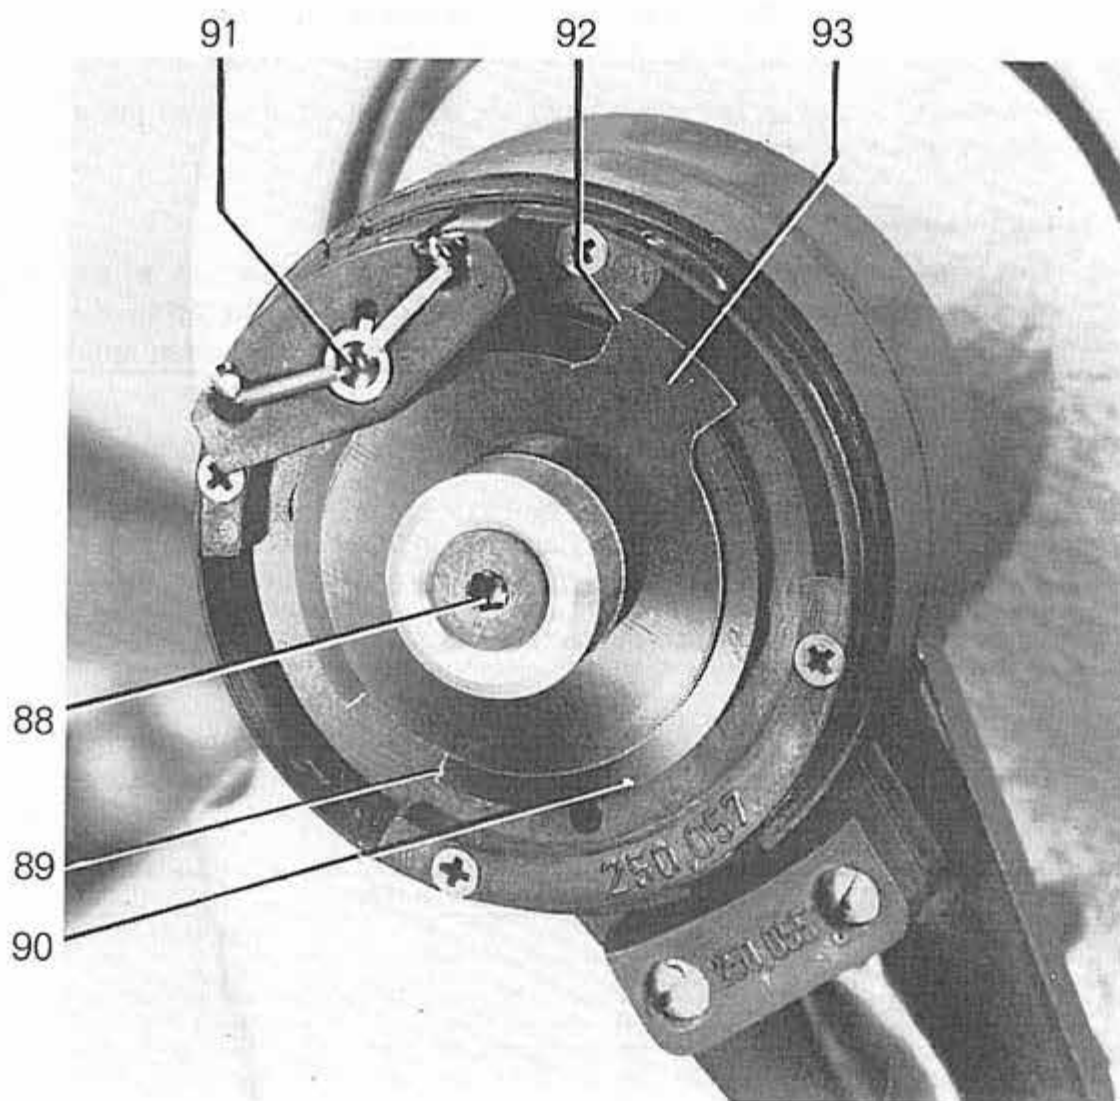

Fig. 53
**In Quick Electronic Stopmotor** loosen the screw 88 (fig. 53) and set the tripping edge 89 of the groove screen 90 to the tripping point 91.
**In Quick Electronic Stopmotor** set the tripping edge 92 (fig. 53) of the screen 93 on the tripping point 91.